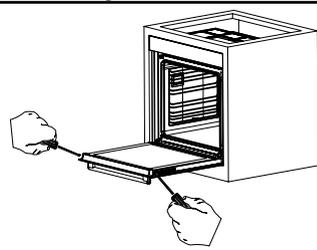
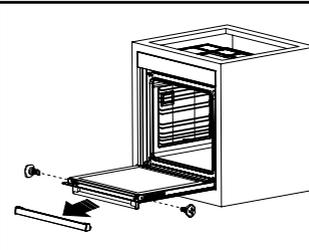
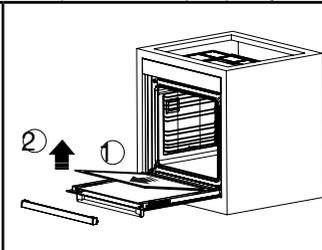

Figure 140
Figure 141
Figure 142
2. Remove the screws on the left and right side as shown in Figure 140. Remove the profile by pulling it towards you as shown in Figure 141. Glass is free after the profile is removed as shown in Fig. 142. Carefully pull the glass that has become free toward you. If necessary, the central glass can be removed in the same way. The outer glass is fixed to the oven door profile. You may easily clean the glass after it has been separated. Once the cleaning and maintenance is complete, you may replace the glasses and the profile by performing the removal procedure in reverse. Make sure that the glass is inserted in the correct direction and that the profile fits properly.